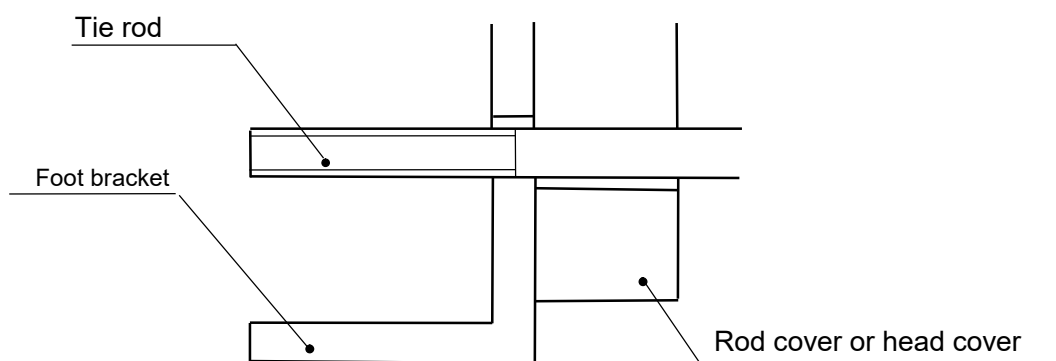

Figure 3
8. When foot bracket is used, mount it so that the distance between the bottom face of the foot bracket and the center of the piston rod becomes minimum. (See the figure 3.)